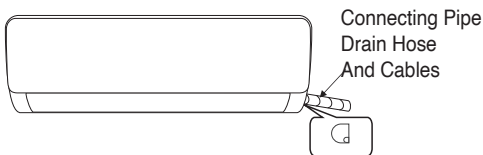
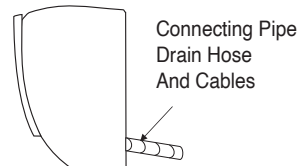

Fig.1
Fig.2
1. Depending on the position of the unit, the piping may be routed sideway from the left or the right (Fig 1), or vertically from the back(Fig 2 } (depending on the pipe length of the indoor unit). In the case of sideway routing, cut off the outlet cutting stock of the opposite side.